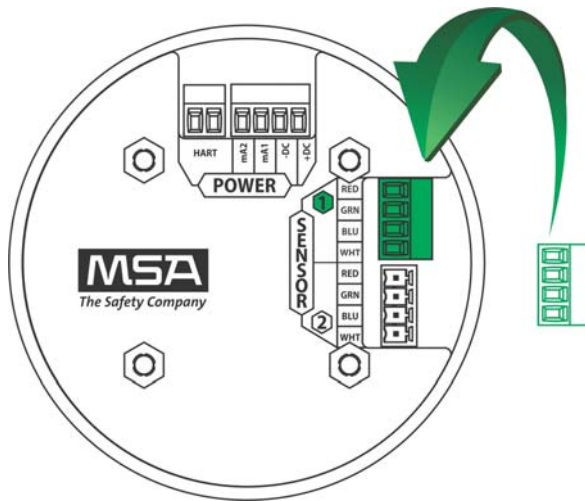

Fig. 21 Connecting a Sensor to the Board
- (6) Tighten screws on connector and tug gently on wires to ensure they are secure.
- (7) Connect shield of cable to the ground screw.
- (8) Connect an XCell or XIR PLUS sensor using the green connector. Sensor wires are already connected as shown on the cover plate (see Fig. 21):